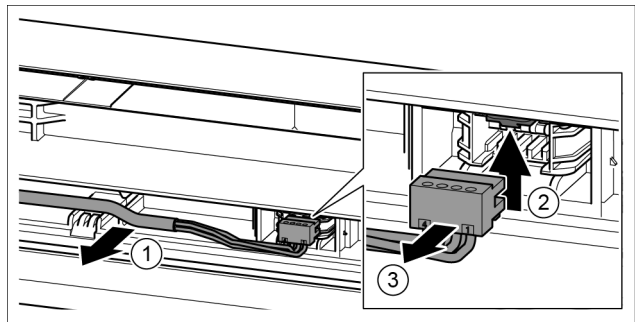

Fig. 24
- ▶ Carefully remove the grey cable from the guide in the door. Fig. 24 (1)
- ▶ Press the tab upwards. Fig. 24 (2)
- ▶ Carefully remove the plug. Fig. 24 (3)